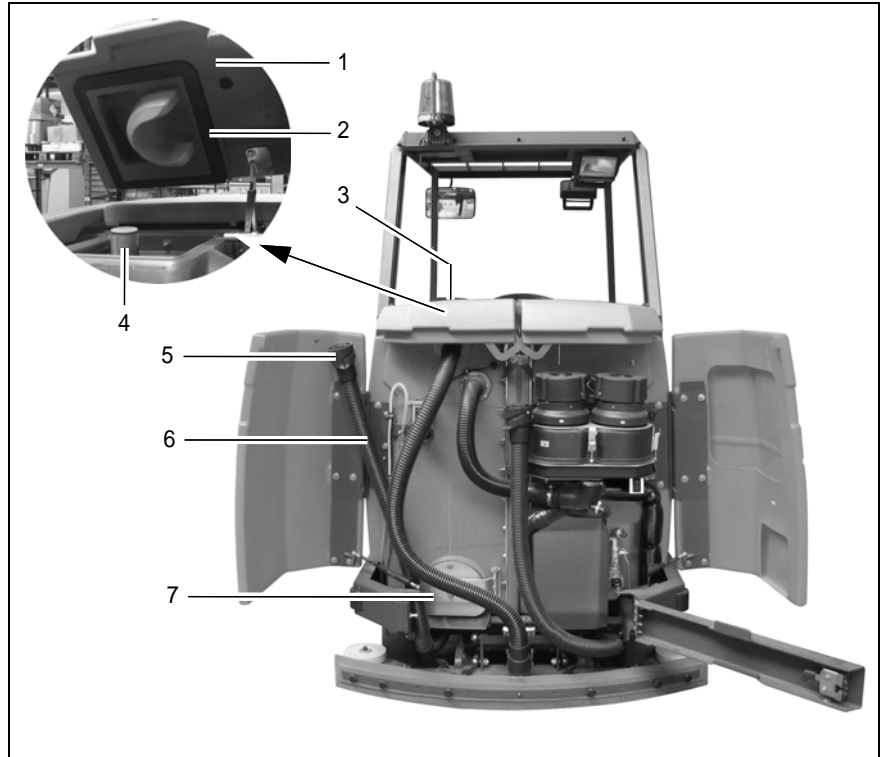

Fig. 29
The recovery tank (Fig. 29/3) must be emptied and flushed clean after finishing work.
1. Park the vehicle so that the waste water draining hose (Fig. 29/6) can be positioned over a drain in the floor.
4. Detach the waste water draining hose (Fig. 29/6) and lower it slowly.
5. Unscrew the screw cap (Fig. 29/5). The quantity drained can be regulated by turning the cap and pivoting the cap open fully, if necessary.
Clean the recovery tank (Fig. 29/3) every day or as necessary. The cleaning flap (Fig. 29/7) is available for this.
8. Open the recovery tank lid (Fig. 29/1).
11. Unhook the waste water draining hose (Fig. 29/6), lower it slowly and open the cap (Fig. 29/5).
- Clean the screw cap on the waste water draining hose (Fig. 29/6) daily.